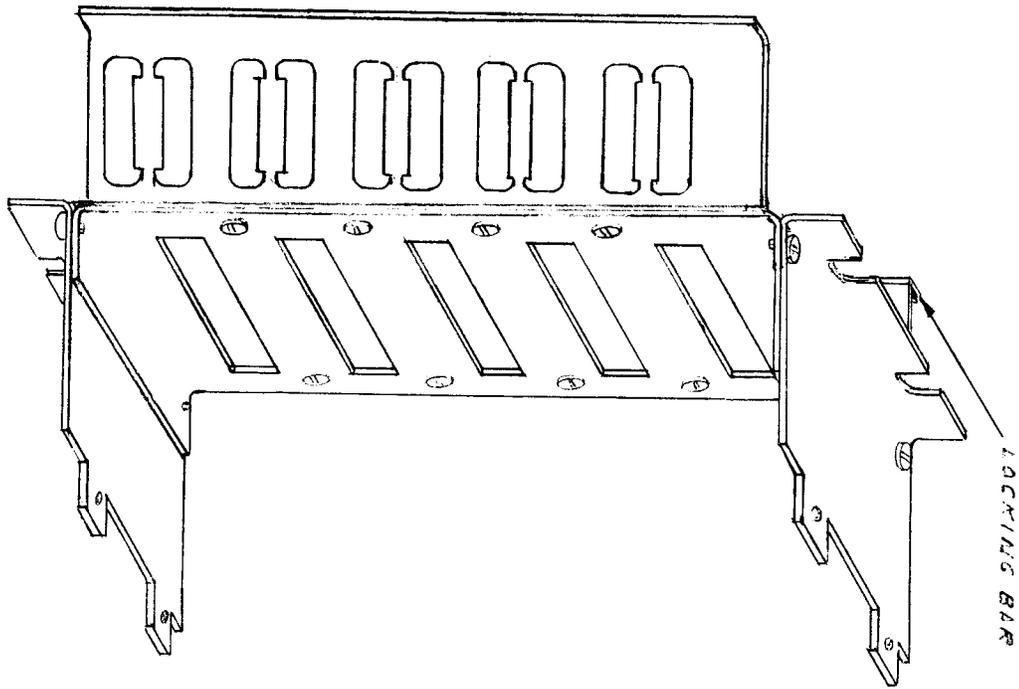

FIGURE 2A
- a. Figure 2A shows the position of the mounting brackets for mounting into a seven inch K.T.S. rack. The locking bar should be on the left, so that the components are above the printed circuit board.